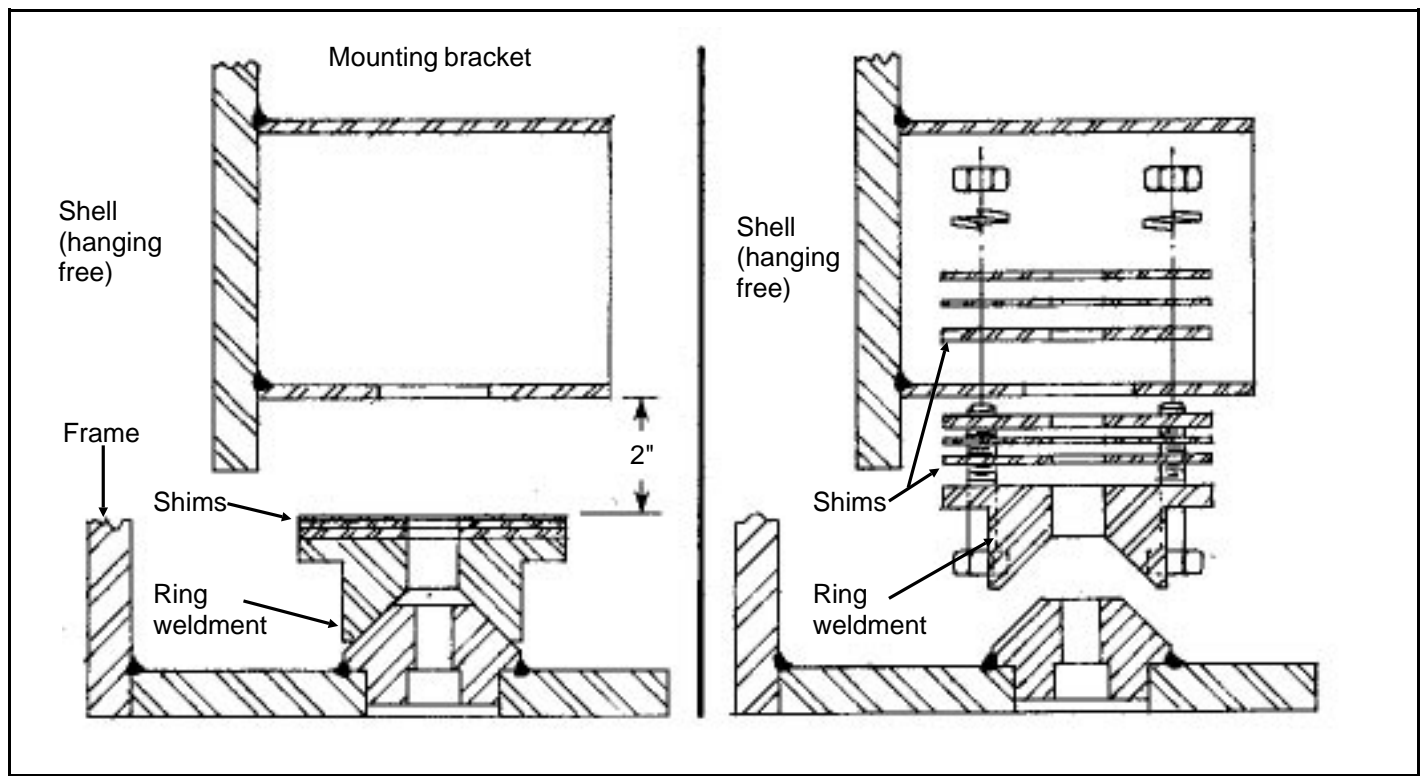

FIGURE 7 (MSSM0208AE)
3. Stack shims on top of the ring weldment as required to make each gap exactly 2 inches as shown in FIGURE 7. If the gap at any location is less than 2 inches without shims, the shell must then be raised in the frame, using the procedures previously described.
4. Once the proper arrangement of shims is made, remount the ring weldment and shims to the mounting bracket (FIGURE 7). Any extra shims may be stacked on the top side of the mounting bracket plate to which the ring weldment is attached.